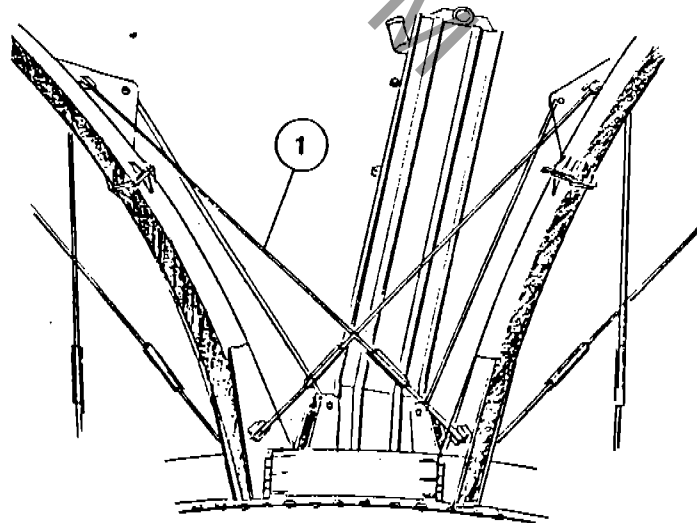
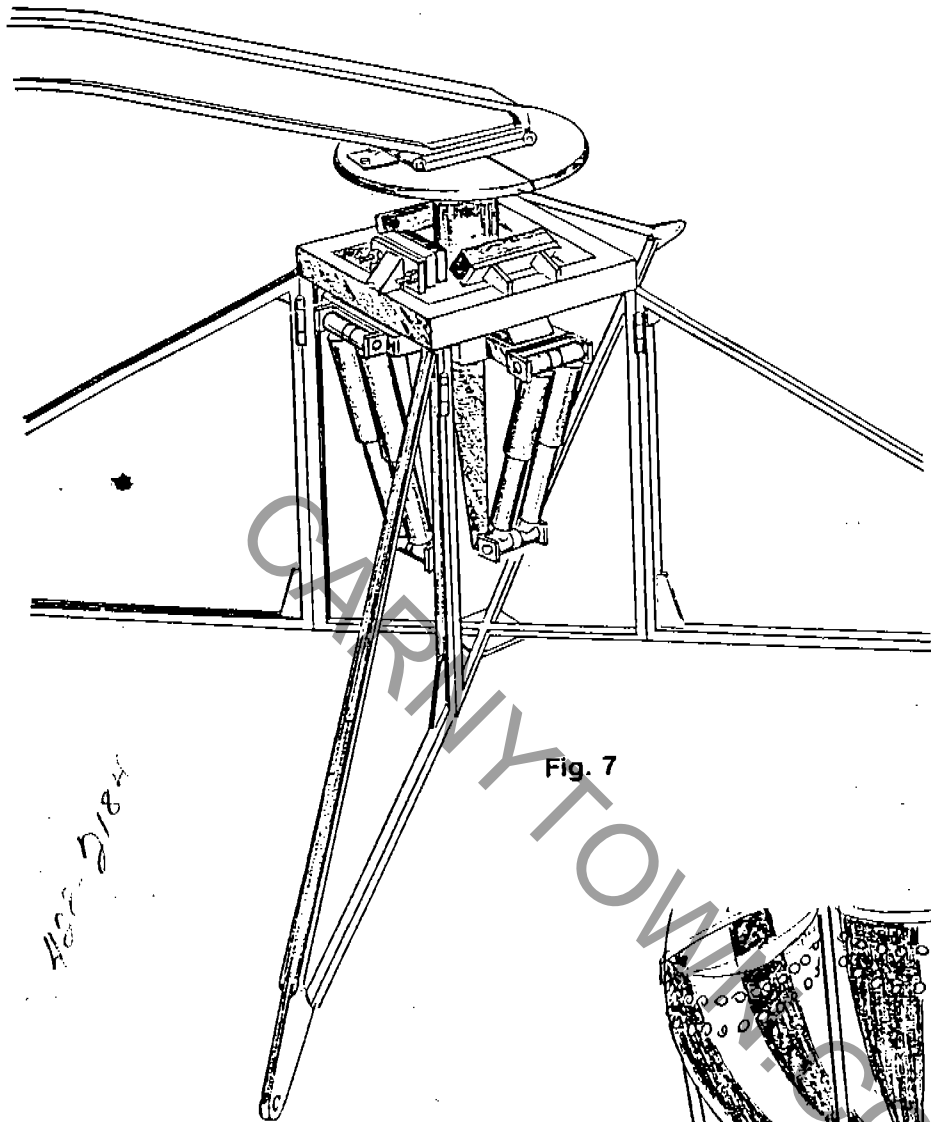

Fig. 6
Fig. 7
- Install the arm linkage as shown in Fig. 6 and spread out the balloon supports as shown in Fig. 7.
- Montare la tiranteria dei bracci come rappresentato in Fig. 6 ed aprire i sostegni mongolfiere come in Fig. 7.